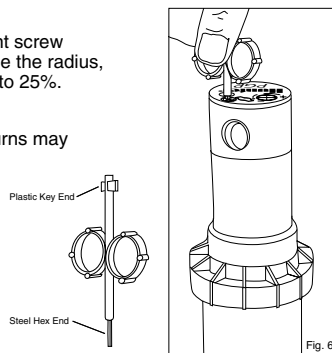

Fig. 6
Insert the steel hex end of the Hunter wrench into the radius adjustment screw (Fig. 6). Turn the screw clockwise (into the stream of water) to decrease the radius, or counterclockwise to increase the radius. Radius can be reduced up to 25%.
2. Using the hex key of the Hunter wrench (Fig. 6) counterclockwise to be sure it is not blocking the nozzle socket opening. If a nozzle is already installed, it can be removed by backing out the adjustment screw and turning on the water, or by pulling outward on the nozzle "ears" with a pair of needle-nosed pliers.